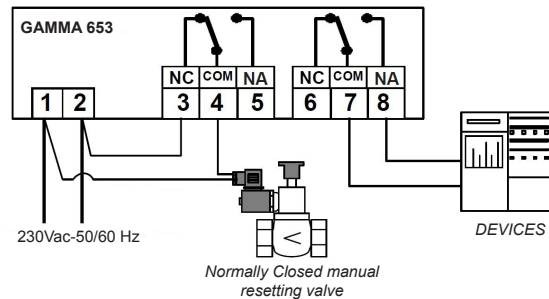

Fig.4
The gas detector has inside a jumper that permits to select the type of electro-valve to connect that can be **Normally Opened** type (Fig. 3) or **Normally Closed** type (Fig. 4). We remind that the valve should be installed on the gas pipes outside the room under control, since protection is useless if a gas leak occurs at the beginning of the gas pipe.
- WITH THE JUMPER IN THIS POSITION, in case of alarm the relays commute and the terminals 3 and 4 WILL OPEN UNTIL THE ALARM CESSATE, while the terminals 7 and 8 WILL CLOSE UP TO THE ALARM CESSATE (FIG.4).